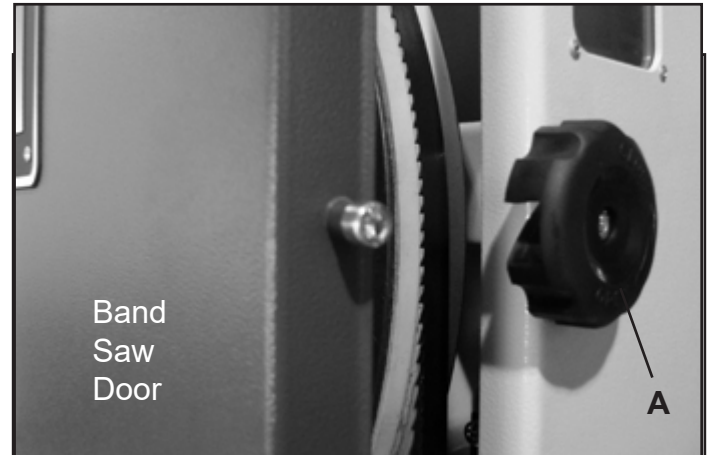

FIG. 18
1. Open the top and bottom wheel doors by turning the door locking knobs (#12A). FIG. 18, A.